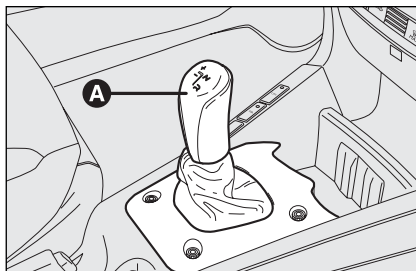

fig. 5
- the gear lever **A-fig. 5** on the central console;